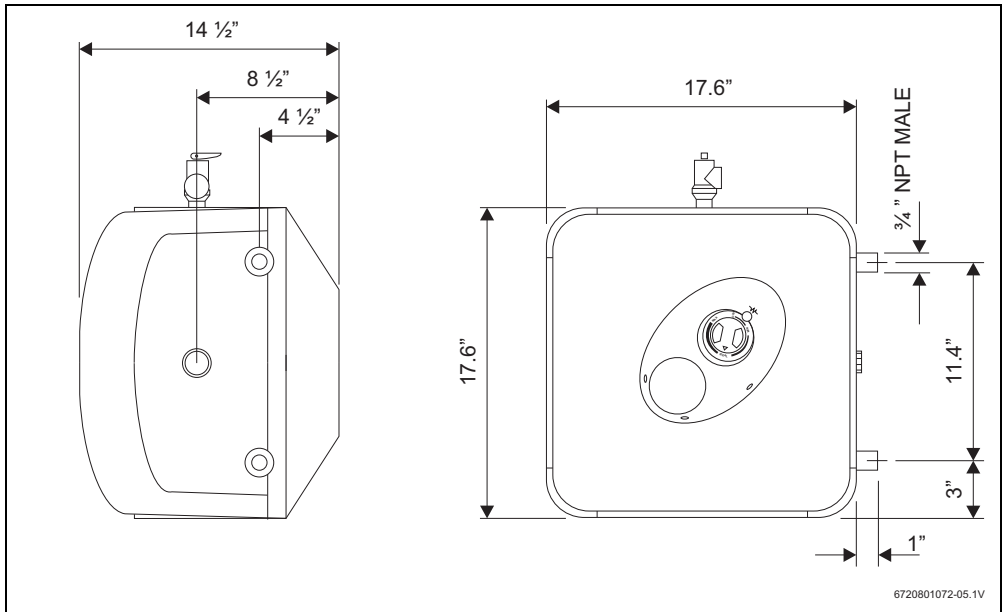

Fig. 7
- The supplied Temperature and Pressure Relief Valve will need to be installed on top. See location of T&P relief valve in → Fig. 7.